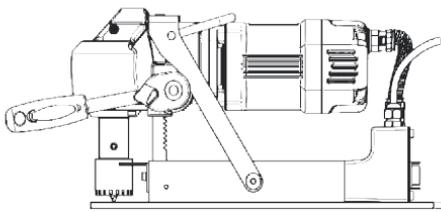

Fig. No. 9
- f) If workpiece under drilling is thin. use an iron plate larger than base as shown in fig. No. 9, 10.